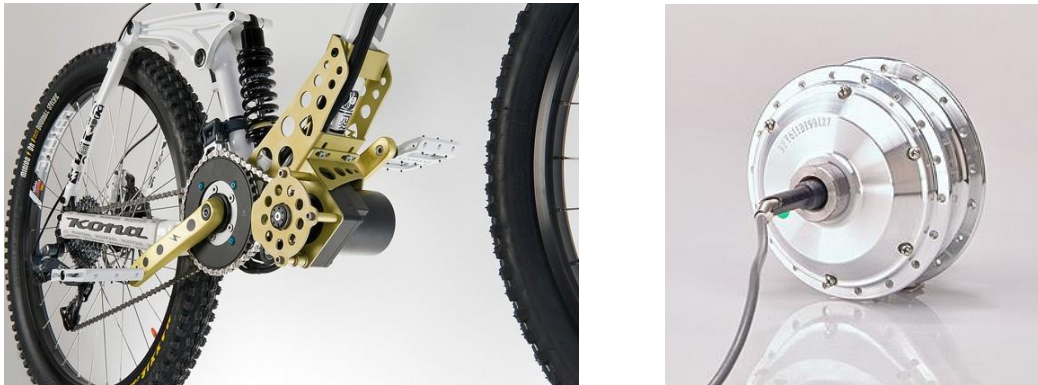

Figure 2: The electric bicycle and the DC motor
Q.2. Consider the electric bicycle which has a DC motor on it as shown in Figure 2.